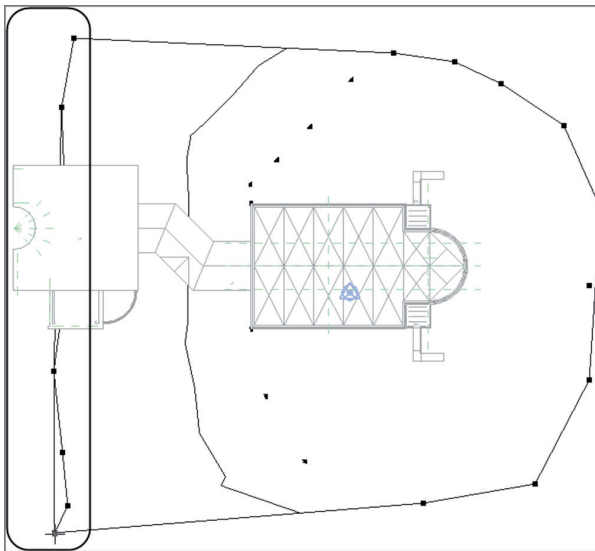

FIGURE BC3.3: Adding the second contour to the site
8. Pick five or six points in a line, similar to Figure BC3.3.